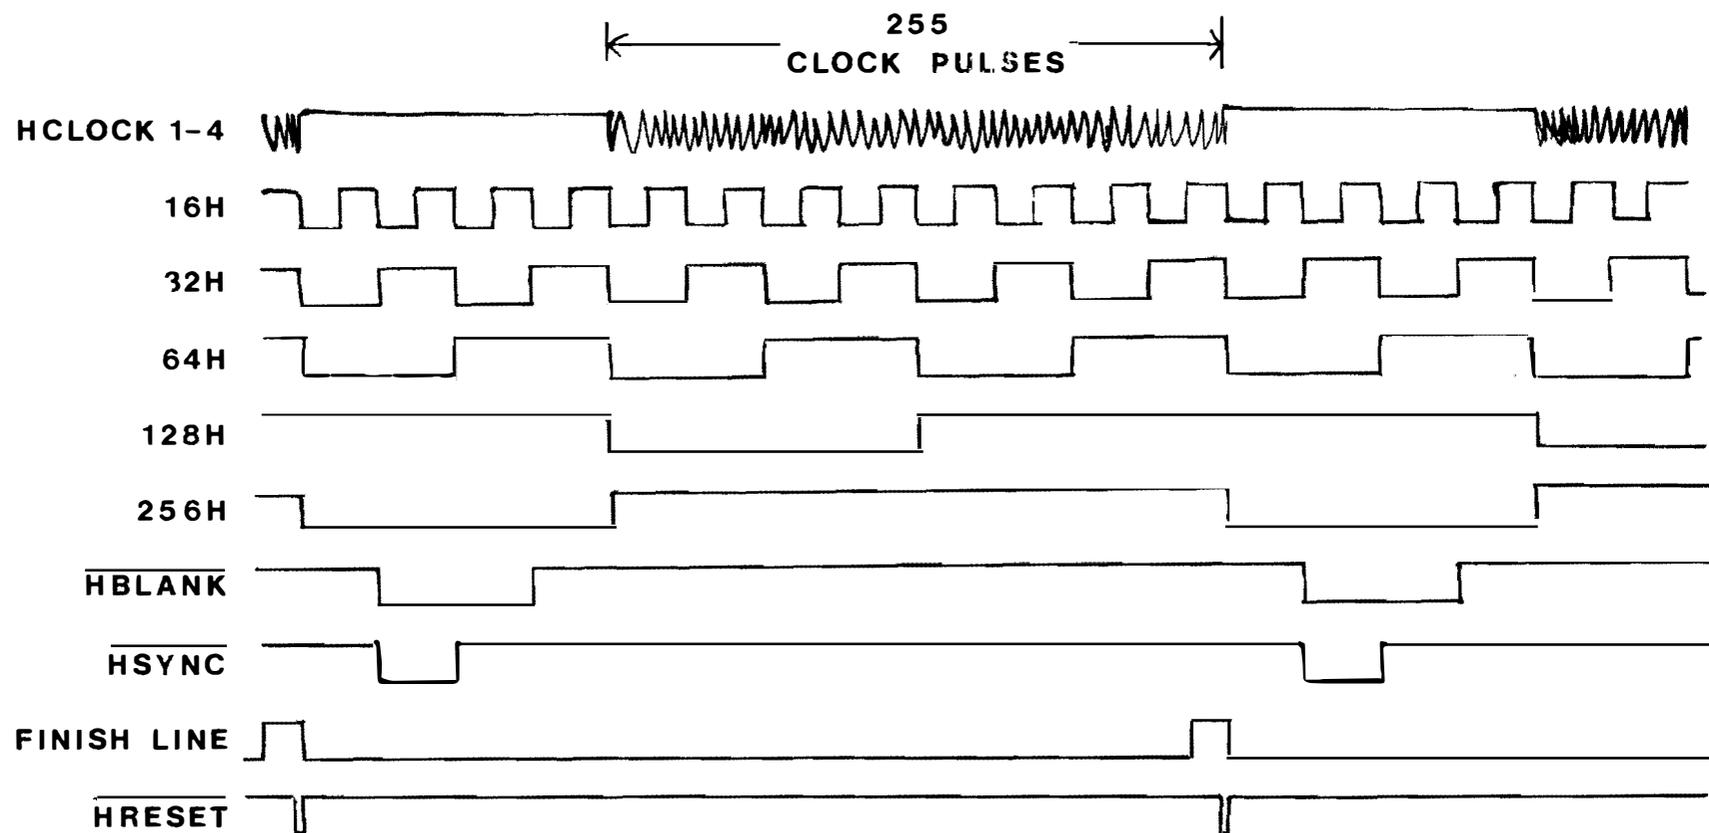

Figure 3-2 Timing Diagram of Signals Associated with Each Horizontal Scan Line
3.4.2 CLOCK SIGNALS (SHEET 2, ZONES D 6, 7, 8): The output from a 12-MHz crystal-controlled oscillator at L4 pin 1 is divided by 2 at flip-flop K1 pin 2. The 6-MHz CLOCK signal produced at K1 pin 5 is then used as the main system clock. From every 384 CLOCK pulses applied at K1 pin 11, the configuration formed by flip-flop K1 and gate K2 passes a partial string of 255 consecutive clock pulses in each horizontal line at K2 pin 10. By additional gating at M1 pins 10, 2, 4 and 12, the HCLOCK 1 through HCLOCK 4 signals are generated. Their relationship to other timing signals associated with the horizontal scan lines seen on the TV screen is shown in the timing diagram of Figure 3-2. The HCLOCK 1 through HCLOCK 4 signals are used to clock the horse motion counters (see para. 3.4.7).
3.4.3 GENERATION OF HORIZONTAL SYNCHRONIZATION INFORMATION (SHEET 2, ZONES C 6, 7, 8 and D 6, 7, 8): Flip-flop H2 (with output at pin 5) and type-9316 counters H1 and F1 comprise a horizontal sync chain which divides the CLOCK signal by 384. The timing relationships between the HBLANK, HSYNC, FINISH LINE and HRESET signals produced in this chain are shown in Figure 3-2. The HSYNC signal at J2 pin 10 is the basis for the horizontal synchronization information sent to the TV monitor, and the HBLANK signal at H2 pin 9 is the basis for the horizontal component of the video blanking information to the monitor.